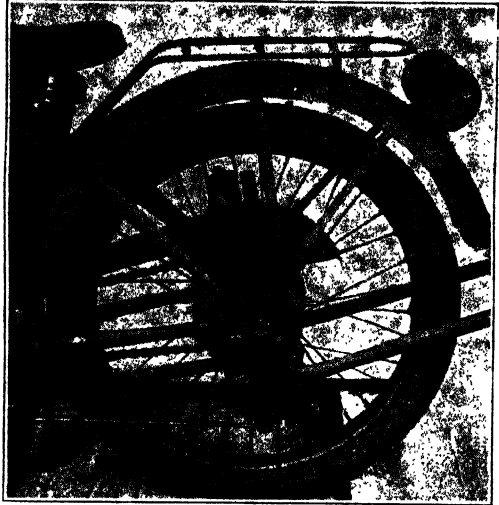
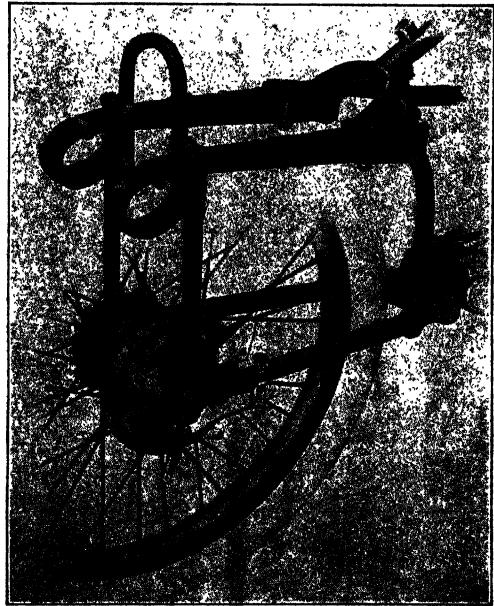

Fig. 23. Pope Rear Frame Spring Arrangement
Fig. 24. Indian Rear Cradle-Spring Rim
*Rear and Front Frame Springs.* The Pope uses a leaf-spring front fork and a spring type of rear suspension, Fig. 23. The suspension consists of a drop-forged bracket on each side, brazed to the rear end of the frame, with a tension spring fastened to the top surface of the bracket. Double guide rods, as shown in the figure, are used, these rods carrying an axle yoke which is free to move between the jaws of the bracket, thus allowing the spring to absorb the rear vibration. Fig. 24 illustrates the Indian cradle-spring frame at the rear. This construction has the lower forks pivoted as on the Merkel,